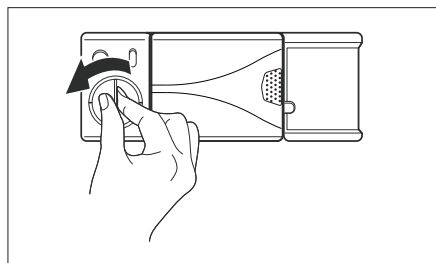

Fig. 3
2. Open the rinse aid dispenser as shown in Fig. 3.
2. Open the rinse aid dispenser as shown in Fig.3.